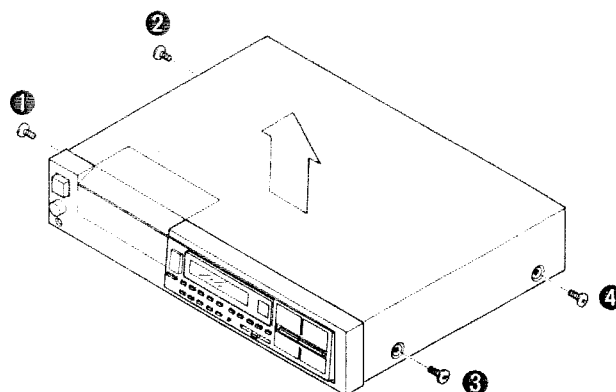

Fig. 1
1. Remove the 4 setscrews [Fig. 1: ① ~ ④] of cabinet.
2. Remove the cabinet in the direction of the arrow. [Fig. 1]